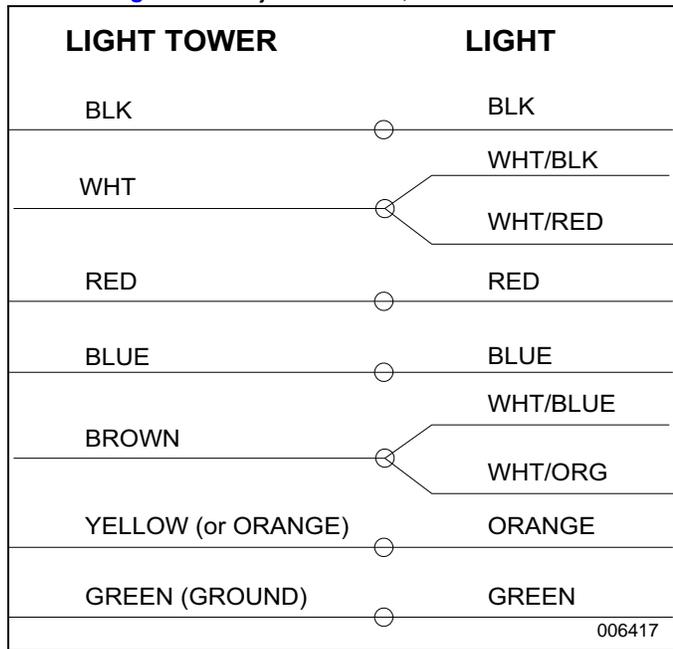

Figure 15. Junction Box Wiring
10. Install light fixture cord through upper strain relief (B). Verify enough wire is in junction box to connect to WAGO connectors, then tighten strain relief.
11. See **Figure 15**. In junction box, connect wires.